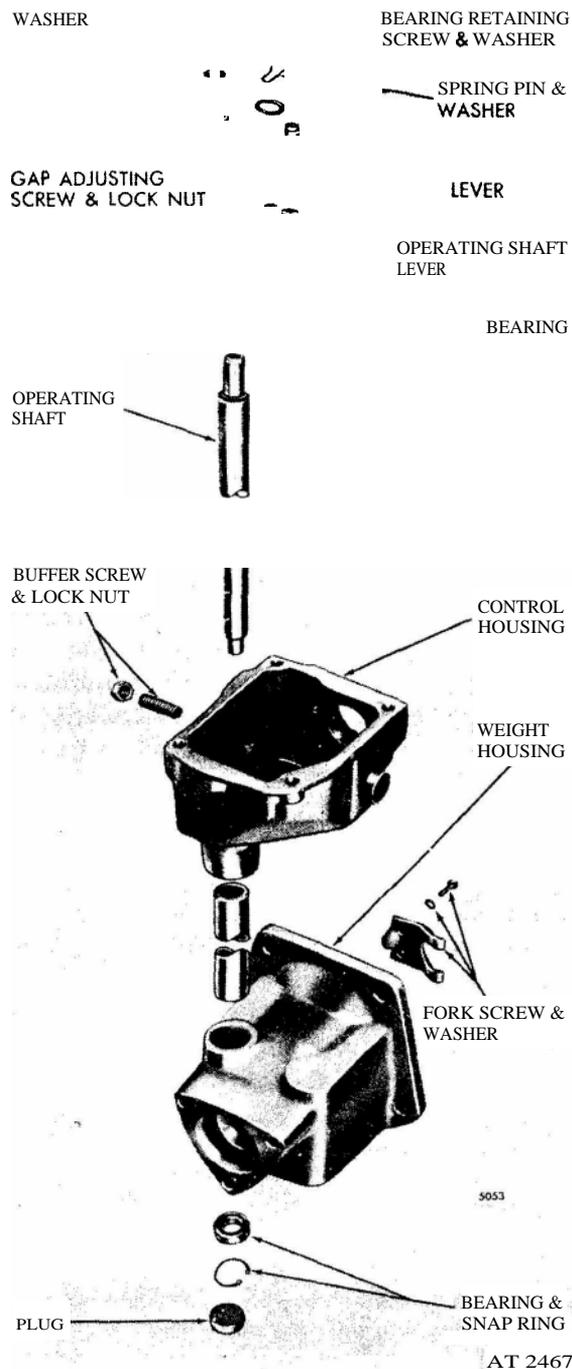

Figure 5. Governor housings and relative location of parts.
3. Install the governor operating shaft lower hearing, numbered side out, in the weight housing. Install the snap ring to secure the bearing (fig. 5). Apply a quality sealant around the *edge* of the *plug* and tap it in place, using a hammer.